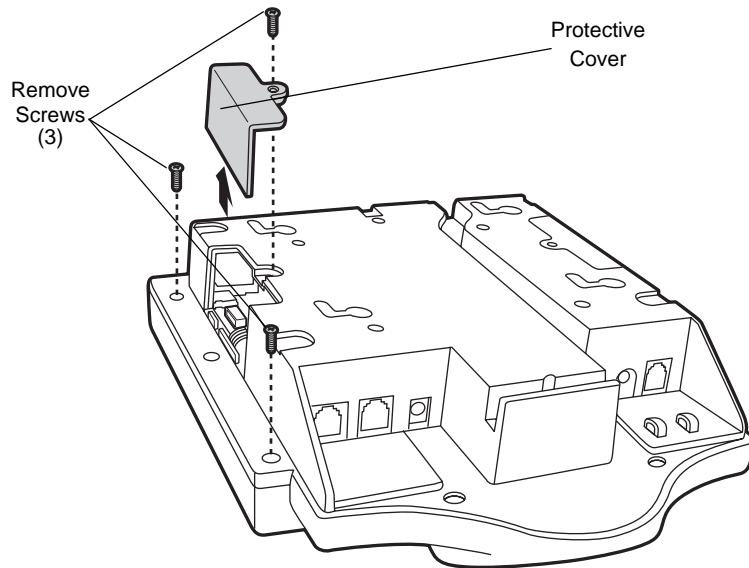

Figure 2-10 Removing the Cover and Screws
2. Remove the three screws shown in Figure 2-10 from the back of the MK1200 and remove the protective cover. Retain only the screw from the protective cover. Two new (longer) screws are provided with the MSR.